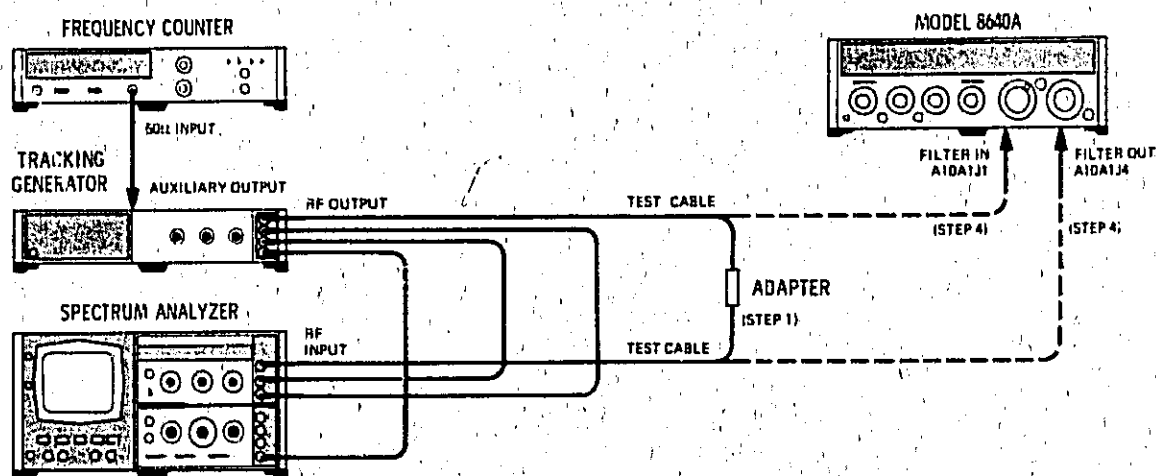

Figure 5-8. RF Filter Adjustment Test Setup
1. Connect equipment as shown in Figure 5-8 after setting Signal Generator's controls as follows: